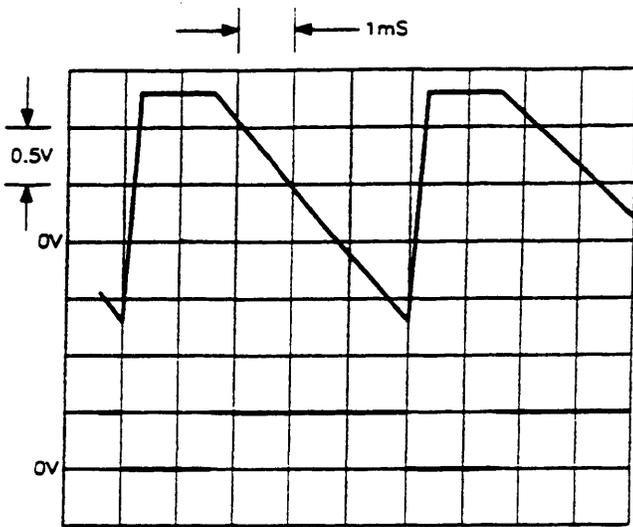

Figure 2. VCO Tune and High Frequency Loop One-Shoot.
7. Switch the Signal Generator back ON. Verify that the oscilloscope display shown in Figure 2 is correct.